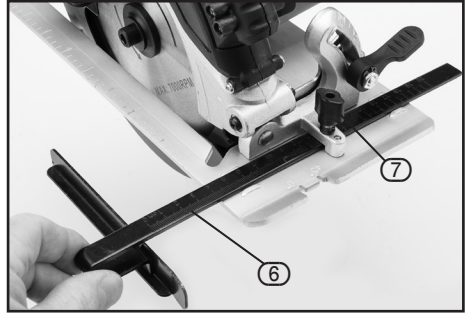

FIG.8
9.5 PARALLEL GUIDE – FIG.8
- Pass the parallel guide (6) through the slots in the base and secure with locking knob (7).